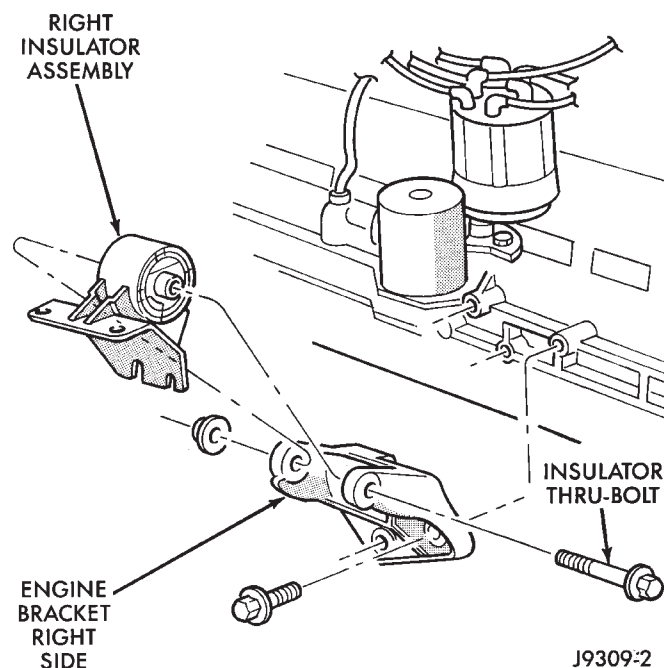

Fig. 6 Engine Mounts—Front (Right Side)
Resilient rubber insulator assemblies support the engine at each side (Figs. 6 and 7).
- (1) Disconnect the negative cable from the battery.
- (2) Raise the vehicle.
- (3) Support and raise the engine slightly.
- (4) Remove the nut from the through bolt (Fig. 6 or 7). **DO NOT** remove the through bolt.
- (5) Remove the insulator assembly retaining bolts (Fig. 6 or 7).
- (6) Remove the engine bracket attaching bolts (Fig. 6 or 7).
- (1) With the engine insulator assembly and engine bracket in position, install the through bolt and the retaining nut (Fig. 6 or 7).
- (2) Install the engine bracket attaching bolts (Fig. 6 or 7). Tighten the bolts to 61 N•m (45 ft. lbs.) torque.
- (3) Install the insulator assembly retaining bolts. Tighten the retaining bolts to 54 N•m (40 ft. lbs.) torque.
- (4) Lower and remove the engine support.
- (5) Tighten the through bolt nut to 65 N•m (48 ft. lbs.) torque.
- (6) Lower the vehicle.
- (7) Connect the negative cable to the battery.